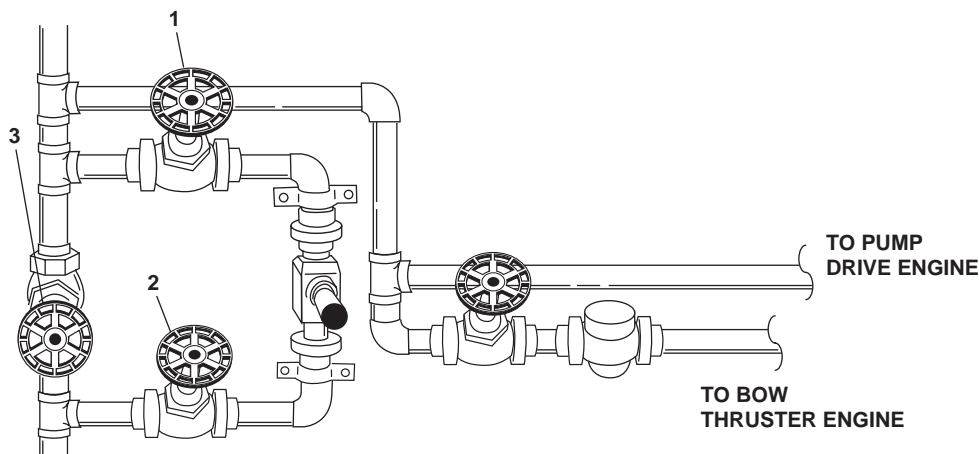

Figure 6. Ship's Service Air System Valve Locations (Forward Bulkhead)
1. OPEN valves CA-39, SVCE AIR TK INL (figure 6, item 1), and CA-40, SVCE AIR TK INL (figure 6, item 2).
2. Ensure that valve CA-41, BYP RDC STA (figure 6, item 3) is CLOSED.